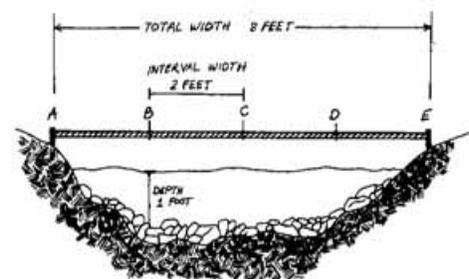

Figure 15-1. Stream transect (from *Volunteer Stream Monitoring: A Methods Manual, Second Edition*).
2. Tie the string taut between both stakes. Mark the string starting from one bank going towards the other with twist ties or markers. These marks will be where you perform the transects. The recommended minimum number of segments should be three. Most monitoring programs perform transects every two feet. Figure 15-1 shows a general transect scheme.